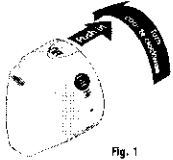

Fig. 1
1. Push the desired gas surface control knob in and turn counterclockwise out of the OFF position (See Fig. 1).
1. Push the left rear gas control knob in and turn counterclockwise out of the OFF position (See Fig. 1).
1. Push the right front surface control knob in and turn counterclockwise out of the OFF position (See Fig. 1).